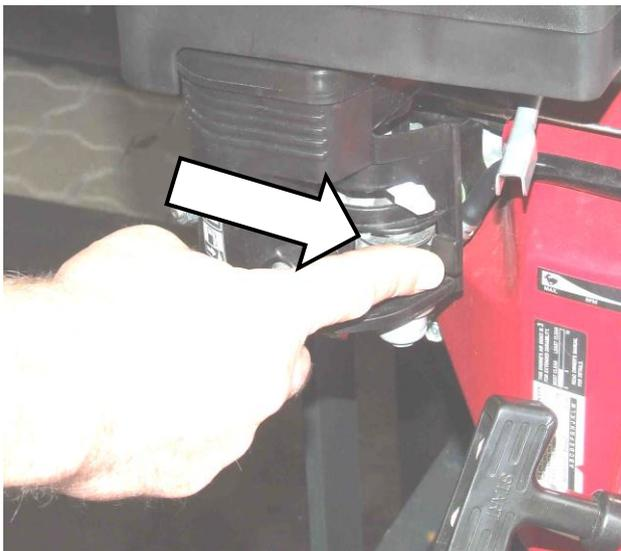

Fig. 2
- Open fuel valve and choke (Fig. 2)
- Start the Honda petrol engine (with electro starter (1)). Move switch to “ON” (↘). Insert and rotate ignition key (↙)
- Or start the Honda petrol engine by pulling (powerful) at the start grip (2). (see details in the Honda operating instructions)